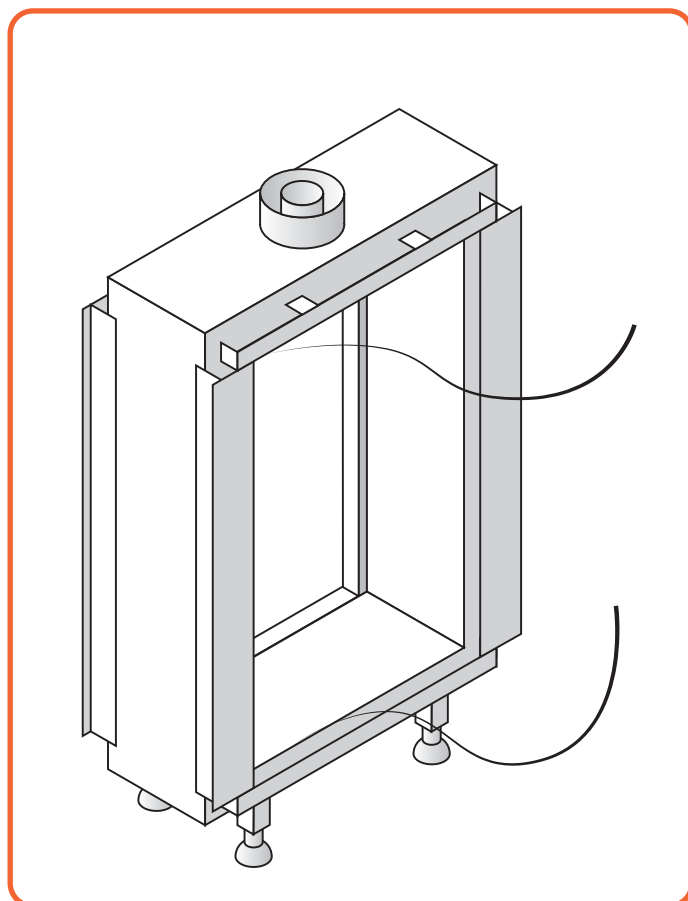

Figure 9.7 | Remove glass rope
- Remove the glass rope, see Figure 9.7.